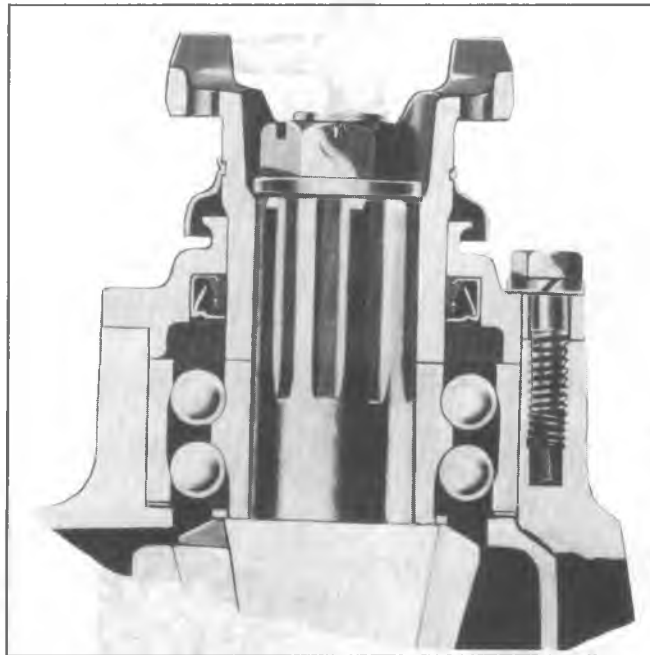

Fig. 4B-42--Pinion Oil Seal-12-1/4" Axle
4. Remove the bolts retaining the oil seal retainer to the carrier, and remove the retainer. See figure 4B-42.